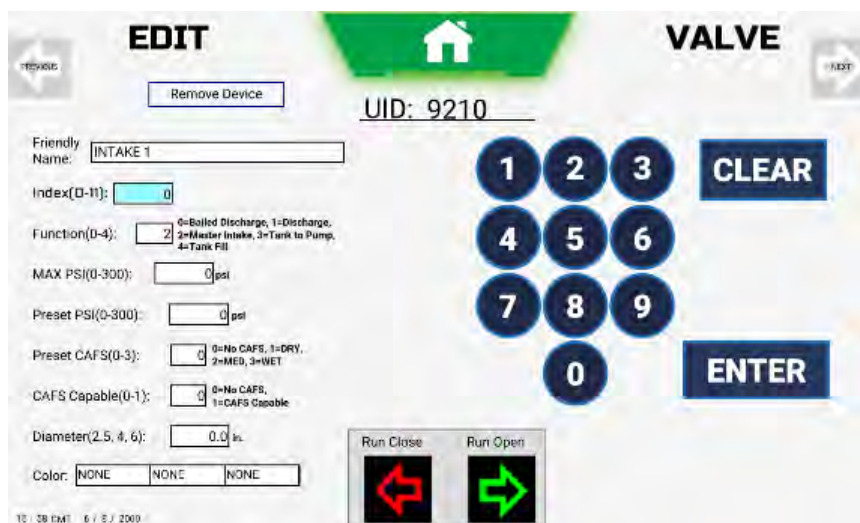

Figure 161. Edit Valve Screen –Number Pad, CLEAR And ENTER Buttons
After selecting the desired valve, touch the Index (0-11) text box (see Figure 161). The number pad, CLEAR, and ENTER buttons appear (on the right-hand side of the screen).
After selecting the desired valve, touch the Function (0 – 4) text box. (see Figure 161, except Function (0 – 4) is highlighted). The number pad, CLEAR, and ENTER buttons appear. The following are SAM conventions for function assignment.
After selecting the desired valve, touch the MAX PSI (0 to 300) text box. (see Figure 161, except MAX PSI (0 to 300) is highlighted). The number pad, CLEAR, and ENTER buttons appear, touch the number(s) for the desired pressure then touch ENTER button. (Touch CLEAR button to delete text box data.)
After selecting the desired valve, touch the Preset PSI (0-300) text box (see Figure 161, except Preset PSI (0 to 300) is highlighted). The number pad, CLEAR, and ENTER buttons appear. touch the number(s) for the desired pressure then touch ENTER button. (Touch CLEAR button to delete text box data.) Default preset pressure setting for SAM discharge valves for water/foam and CAFS are also listed in Table 81 (above).
- B. Touch Index: text box. Number pad, CLEAR and DONE buttons appear. (See Figure 161, page 191.)